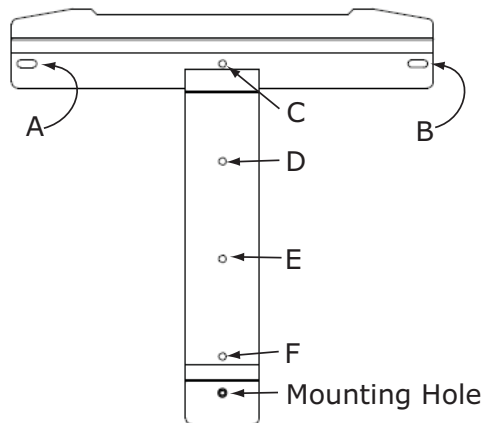

Figure 3-2 Mounting Bracket
6. Locate the two inverter mounting holes below the power board (see Figure 3-2). Insert the two mounting screws through the inverter and tighten securely.
1. Locate the wall studs in the desired location and align the mounting bracket over a single stud. Mark the mounting holes ensuring holes C, D, E and F are directly over the single stud (see Figure 3-2).
Use an 1/8" screw to secure points A and B (See Figure 3-2).